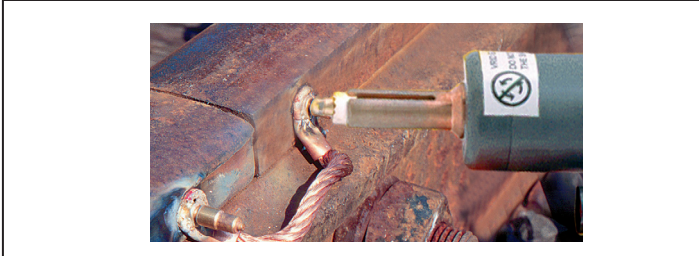

Figure 4. Gun position
11. Position the terminal lug of the bonding cable against the cleaned surface of the rail. Position the gun against the cable lug so that the brazing pin is at the top edge of the cable lug hole. See Figure 4 below.